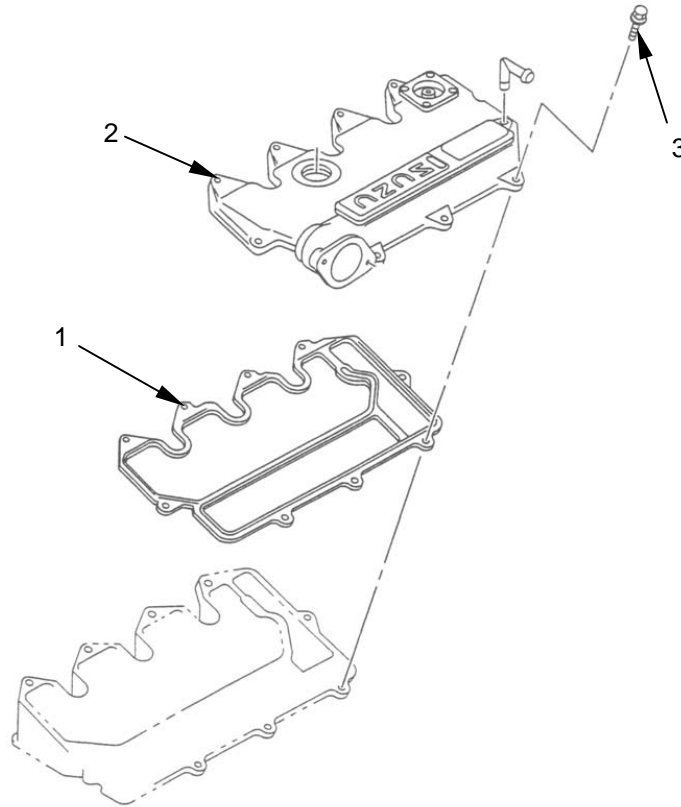

Figure 18. Cylinder Cover
- b. Install new gasket (**figure 18, item 1**) to cylinder head.
- c. Install cylinder head cover (**figure 18, item 2**).
- d. Install cylinder head cover mounting bolts (**figure 18, item 3**).